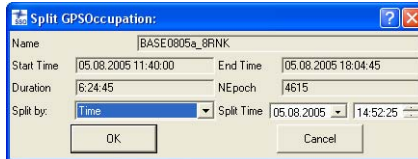

Figure 9-7. Split Occupation Dialog Box
2. You can divide a occupation by the two options in the *Split GPS Occupation* dialog box (Figure 9-7).